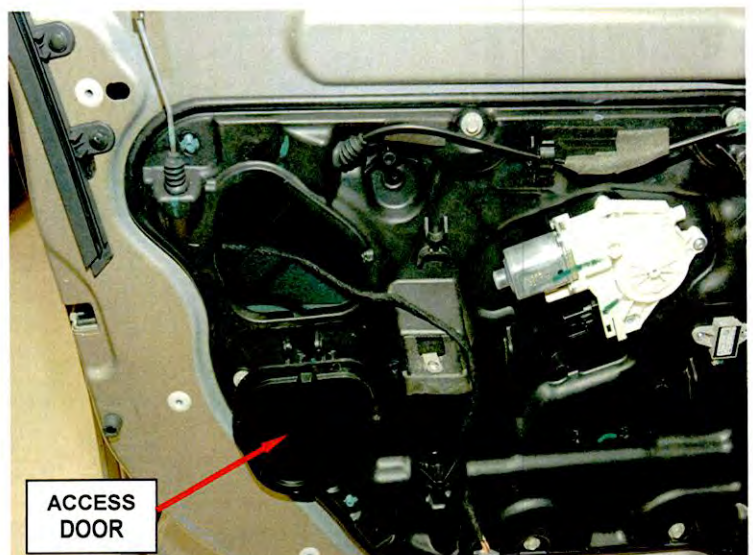

Figure 3 – Access Door in Open Position
11. Open the access door and disconnect the door latch electrical connector (Figure 3).
18. Connect the door latch electrical connector and close the access door (Figure 3).